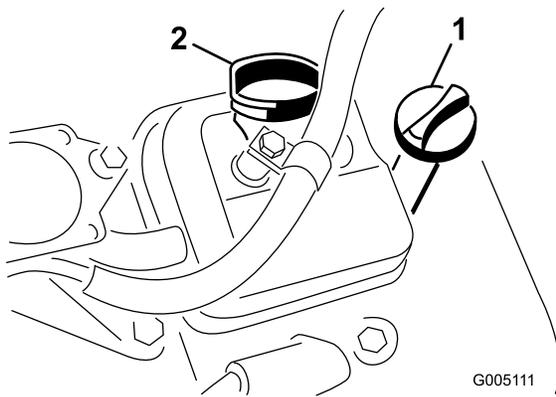

Figure 21
3. Screw the dipstick into the tube and make sure it is seated fully (Figure 21).